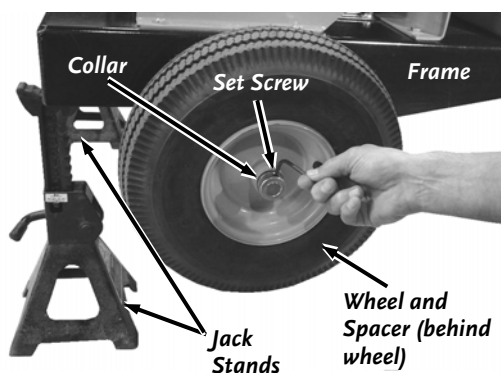

Figure 54
2. Jack up the rear of the Chipper and insert Jack Stands under the rear corners of the Frame to raise the Chipper wheels off the ground (**Figure 54**). The lowermost part of frame must be at least 10" from the ground for the Wheel Assembly to fit under.